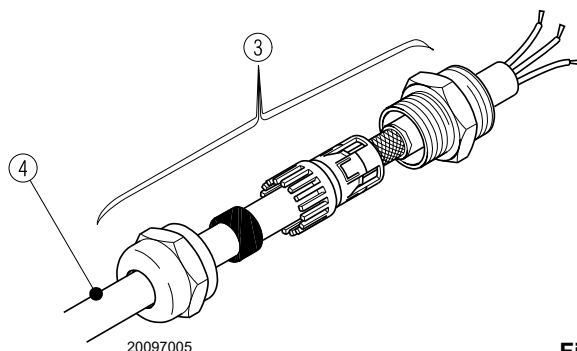

Fig. 27
- Shield the cable 4) running from the VSD (inverter), as shown in Fig. 27 and using the coupling 3);